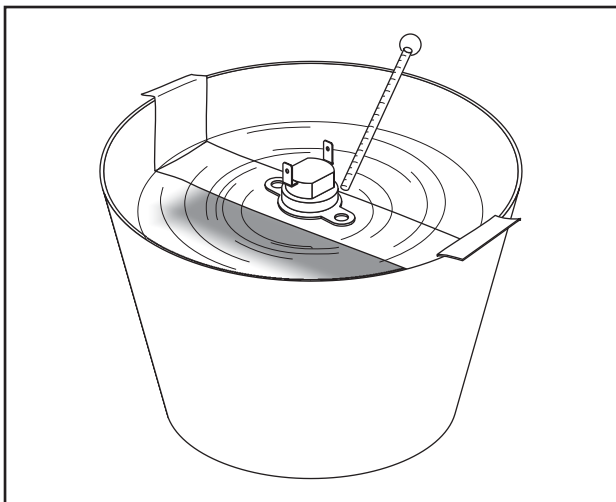

Figure 7-48. – Testing Oil Temperature Switch
2. Remove the switch and place its sensing tip into oil (Figure 7-48). Place a thermometer into the oil.